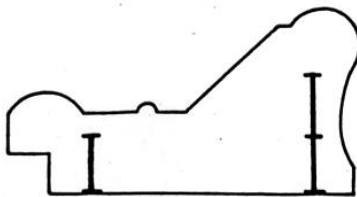

FIGURE 4
**N.B. :** In all cases stapling must be performed as close as possible to the highest part (s) of the moulding (Fig 4).